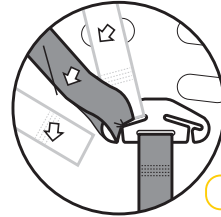

Figure 1
**Step 2:** Remove each shoulder harness through the gates in the spreader plate (refer Figure 1 & 2).